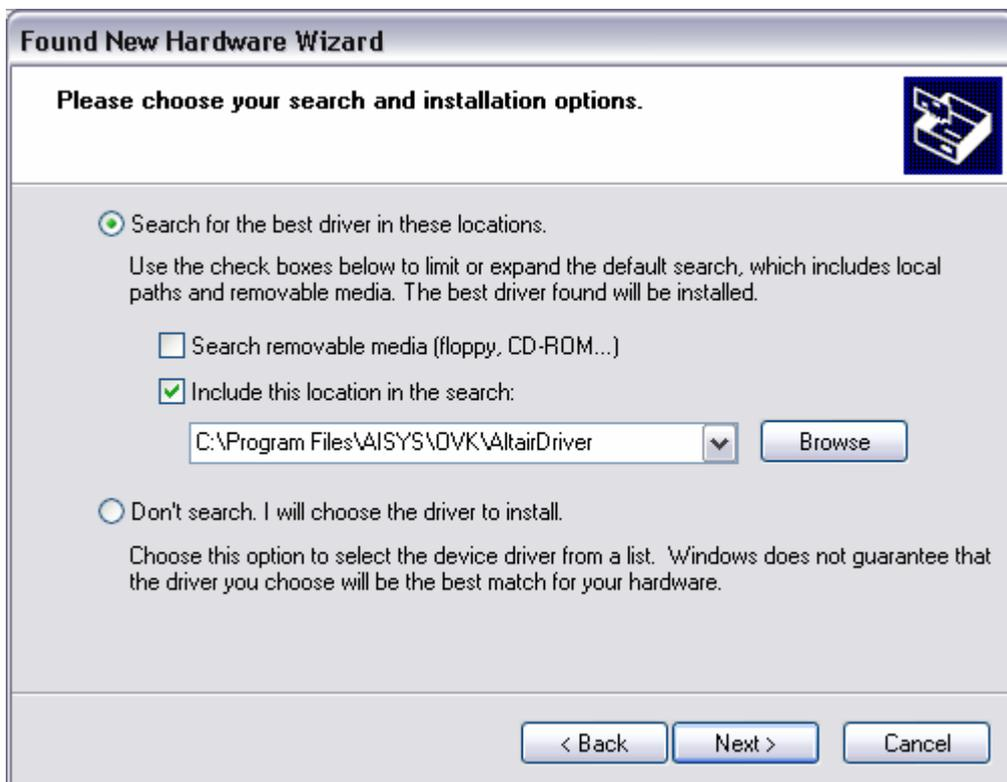
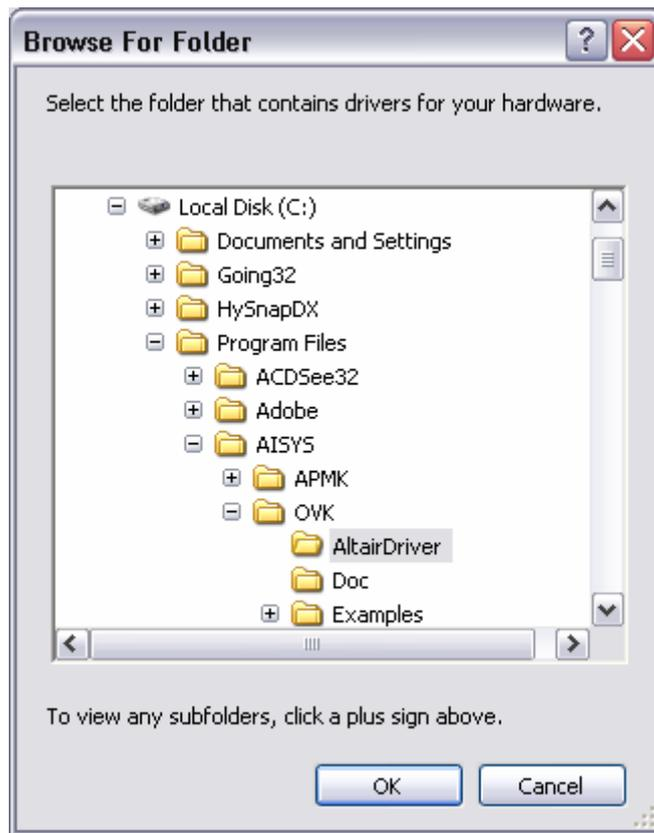

Figure 3.
Figure 4.
4. Check the option and press “Browse” button to introduce Windows the location of ALTAIR driver files as shown in Figure 3 and Figure 4.